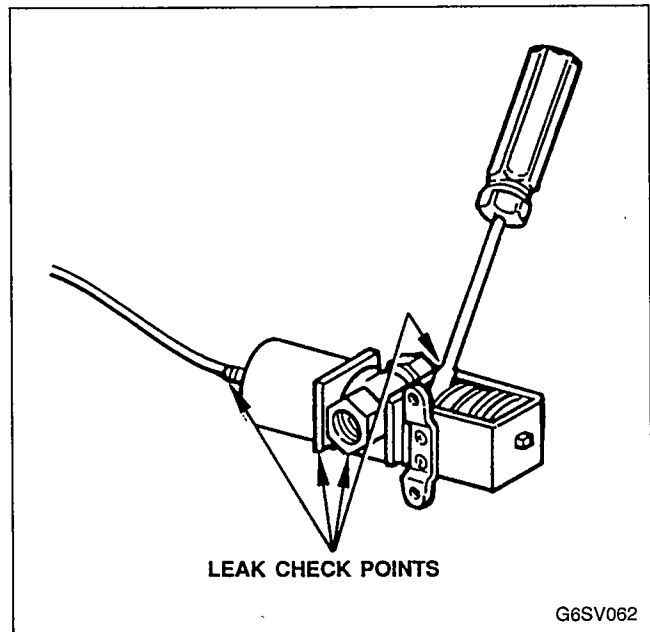

FIGURE 42. WATER REGULATING VALVE LEAK CHECK POINTS
2. Leak check where cap tube meets the bellows housing. See Figure 42.